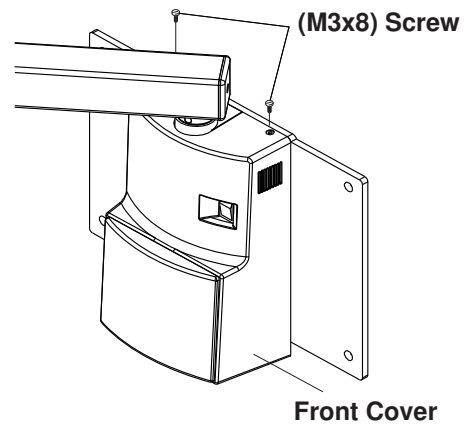

Fig.3-9B Attaching Front Cover
2. Install two (M3 x 8mm) screws into the top of the cover and confirm that the cover is securely attached. (Fig. 3-9B)